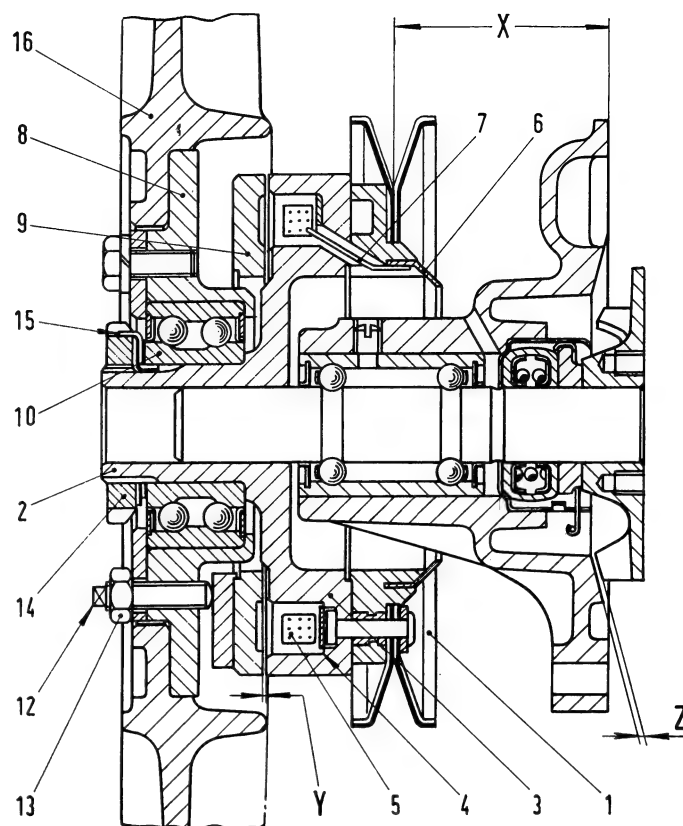

Fig. 86. - Sectional view of water pump and automatic in-and-out fan assembly (engine 118 C.000).
- Using a press, insert the pulley and solenoid assembly on to the water pump bearing shaft, caring for the perfect alignment between these parts and recalling that there must be a constant pinch fit of **.00047" to .00236" (0.012 to 0.06 mm)**. The pressing job should be made so that **the centerline of the pulley is 2 3/8" (60.5 mm) (fig. 84) (engine 115 C.005) or 1 7/8" (47.5 mm) (fig. 86) (engine 118 B.000) apart from the water pump cover mounting face.**
- Install, on the pulley hub (2, fig. 86), the fan (16) assembly, inclusive of hub (8), solenoid armature (9) and bearing (10), slide in the lock washer (15) and then lock the bearing with the nut (14) using wrench **A. 50099**; bend down the lock washer.